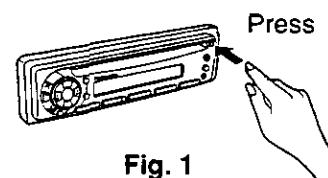

Fig. 1
- ① Switch off the power.
- ② Press the release button [▲]. The removable face plate will be released. (→ Fig. 1)